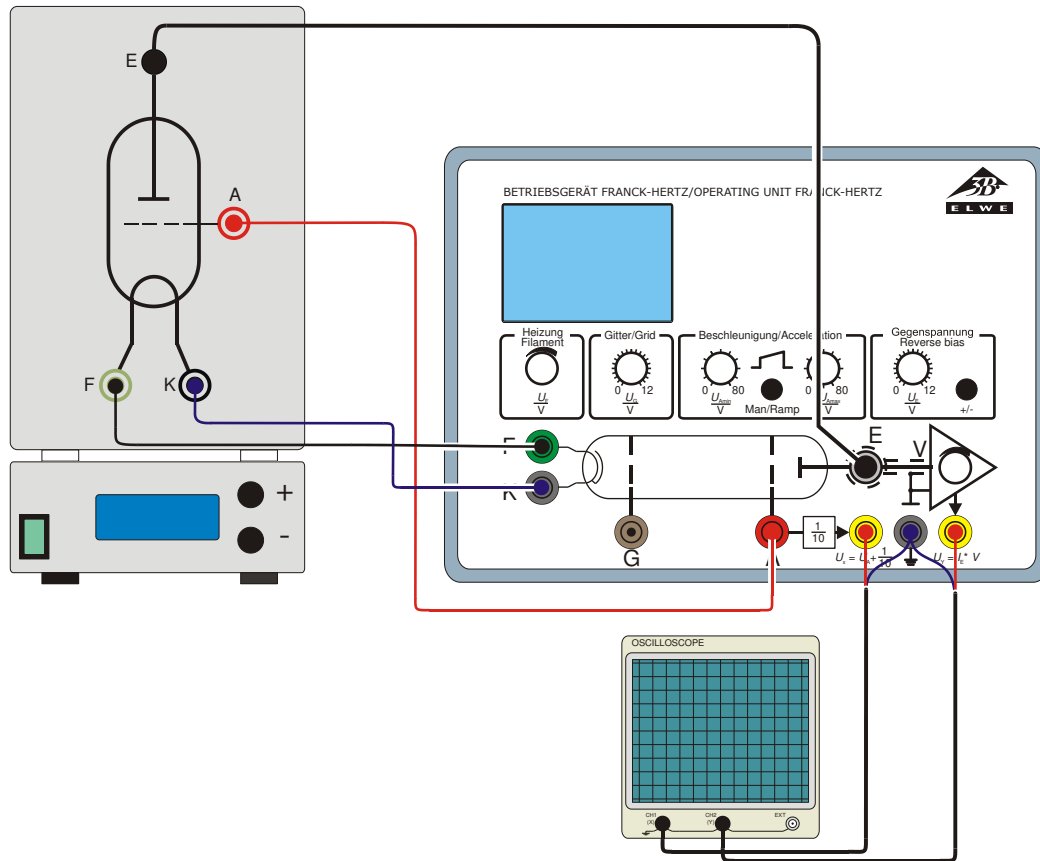

Fig. 1 Experiment set-up - Franck-Hertz tube filled with mercury
- Connect terminals "A", "F" and "K" (refer to Fig. 1).